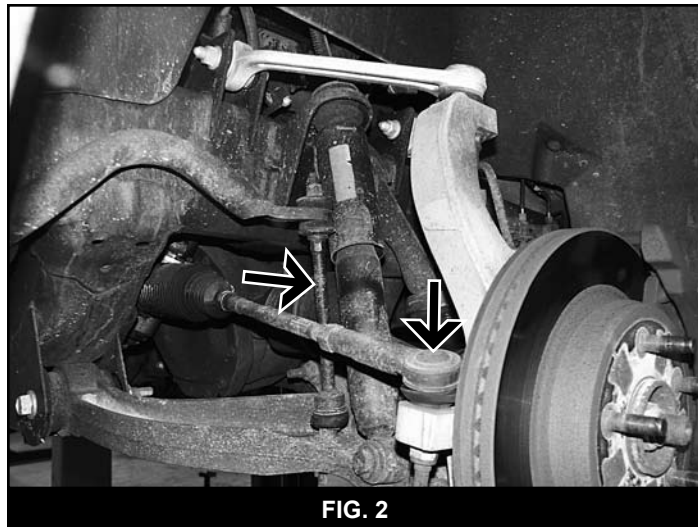

FIG. 2
11. Disconnect the sway bar links from the lower control arms and sway bar (Fig 2). Discard the links.
13. Disconnect the tie rod ends from the steering knuckles (Fig 2). Remove and retain the mounting nuts. Use the appropriate puller to separate the tie rod end from the steering knuckle. Take care not to damage the tie rod end.